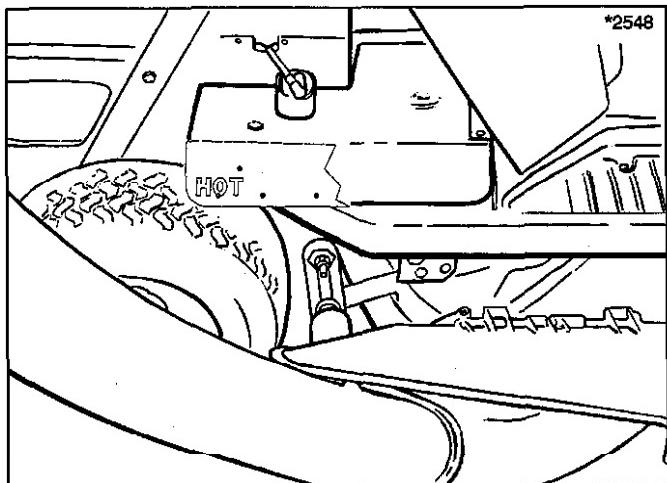

Figure 1. Placing Template for drilling holes
2. See figure 1. Cut out the template below and place it on the duct with the edges aligned. Tape the template in place and drill out the holes as indicated using a  $13/64"$  drill bit.